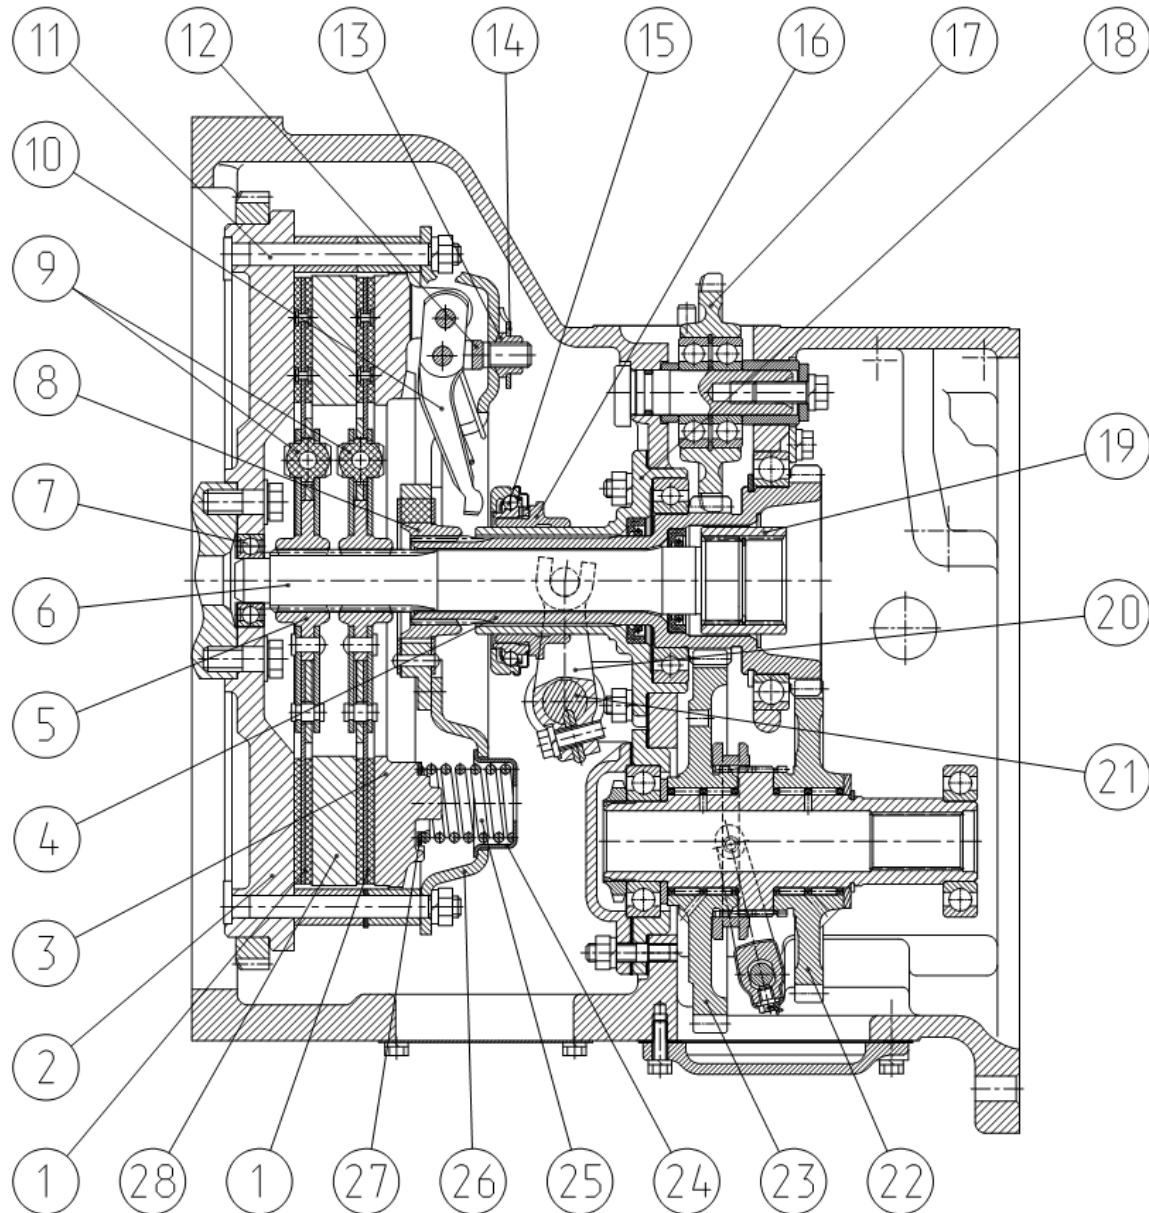
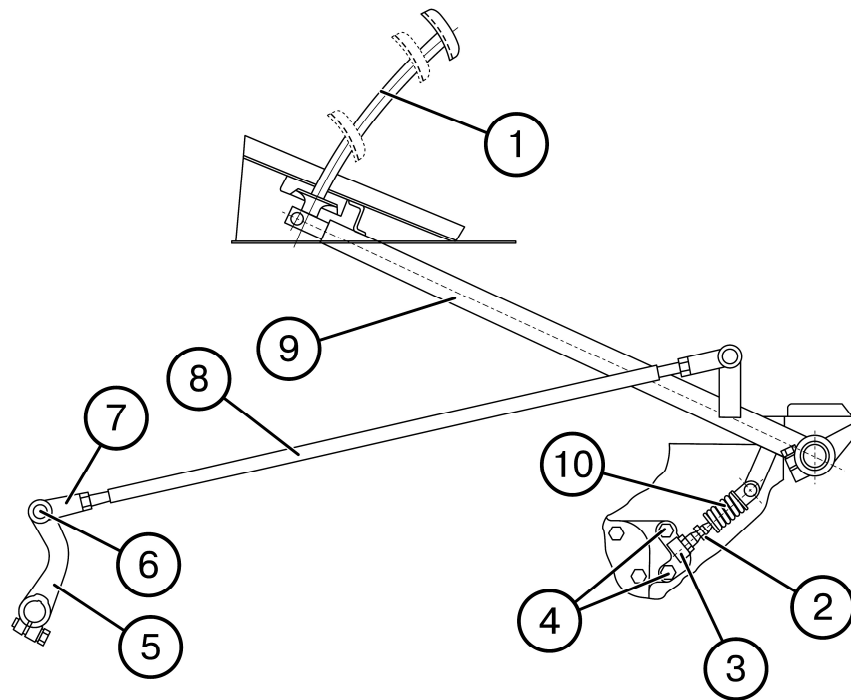

Fig. D-10. Clutch:
Fig. D-11. Clutch control:
The clutch (Fig. D-10) of the tractor consist of the clutch coupling (elements 1, 3, 5, 7-10, 12-14, 24-28 Fig. D-10) and clutch housing (elements 6, 15-23 Fig. D-10).
The clutch is disengaged by stepping on the clutch pedal (1) (Fig.D-11) which acts through the linkage (1), (5), (8) onto the retractor (16) (Fig. D-10) and the throw-out bearing (15).
When the pedal (1) is released (Fig.D-11), the clutch is engaged by the pressure springs (25) (Fig.D-10). The spring (10) of the servounit (Fig.D-11) makes the clutch engagement easier and always presses the lever (9) (Fig.D-11) against the cab floor when the clutch is engaged.